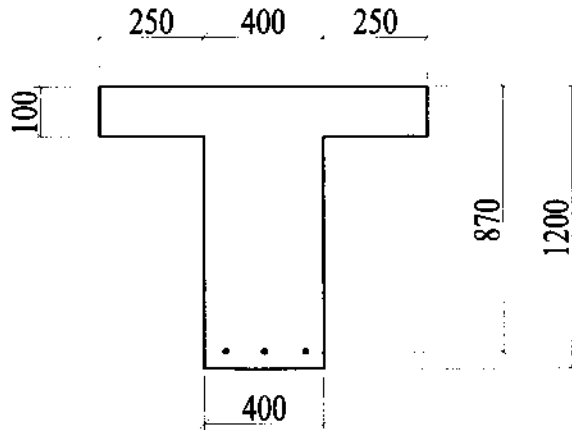

FIGURE Q3
- Q3** A bonded prestressed concrete beam is of T section 400 mm by 1200 mm, as shown in Figure Q3. The tendon consists of 3300 mm² of standard strands with the characteristic strength of 1700 N/mm² and Young's modulus equal to 200 kN/mm² was stressed to an effective prestress of 910 N/mm². The strands are located 870 mm from the top face of the beam. The concrete characteristic strength is 60 N/mm² and its modulus of elasticity is 36 kN/mm².